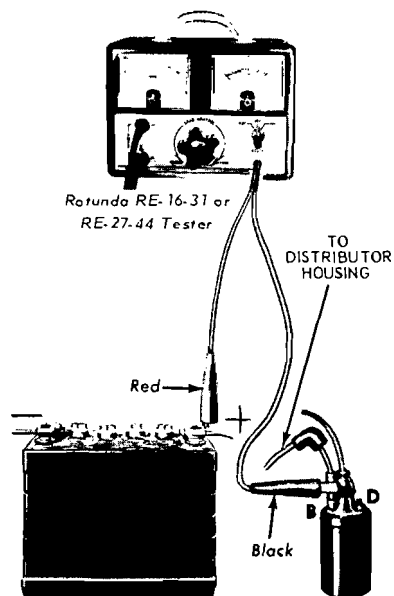

FIG. 5—Battery to Coil and Starting Ignition Circuit Test
1. Connect the voltmeter leads as shown in Fig. 5.